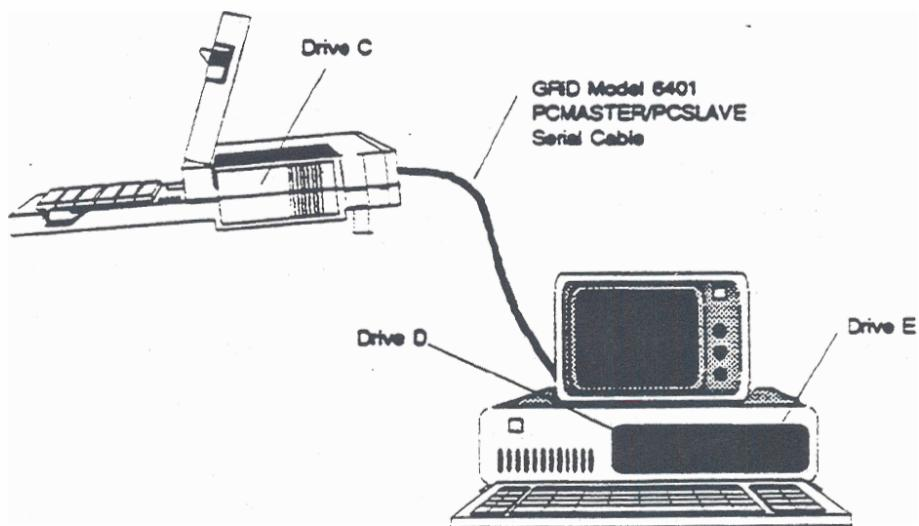

Figure 10-4. Moving Files Using the PC File Transfer Utilities
Figure 10-4 shows a typical PCMASTER/PCSLAVE configuration; the procedure that starts below assumes this configuration of storage devices, although many others are possible.
As shown in Figure 10-4, GRiD MS-DOS assigns the letter C to the GRiDCASE internal hard disk drive, and D and E respectively to the drives on the IBM PC. (Normally, PC-DOS assigns A and B to these two drives.)
If the PC had one diskette drive (instead of two as shown in Figure 10-4) and a hard disk, GRiD MS-DOS would have assigned drive D to the diskette drive and drive E to the hard disk.
5. At the IBM PC, insert into Drive E the source diskette containing the files to be copied (see Figure 10-4).
For example, if you want to look at the directory of drive E on the PC (see Figure 10-4), enter